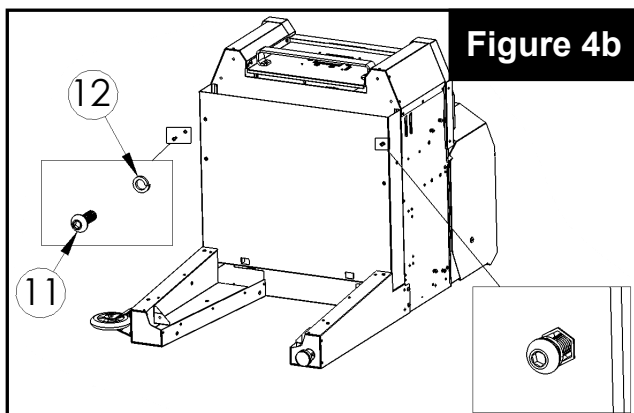

Figure 4b
Step 4) Attach the front leg assembly from **Step 2** using 4 screws (Part 11) and 4 lock washers (Part 12) (See **Figure 4a**). Partially thread screws with lock washers onto the top holes, and then insert and position the leg braces before tightening (See **Figure 4b**).
Partially thread screws with lock washers at the top side locations, and then slide right panel (Part 13) onto the side opening of the leg assembly (**See Figure 4a**). Attach the screws with lock washers at the bottom locations, and then fold the right panel upward before tightening the screws (**See Figure 4b & 4c**).